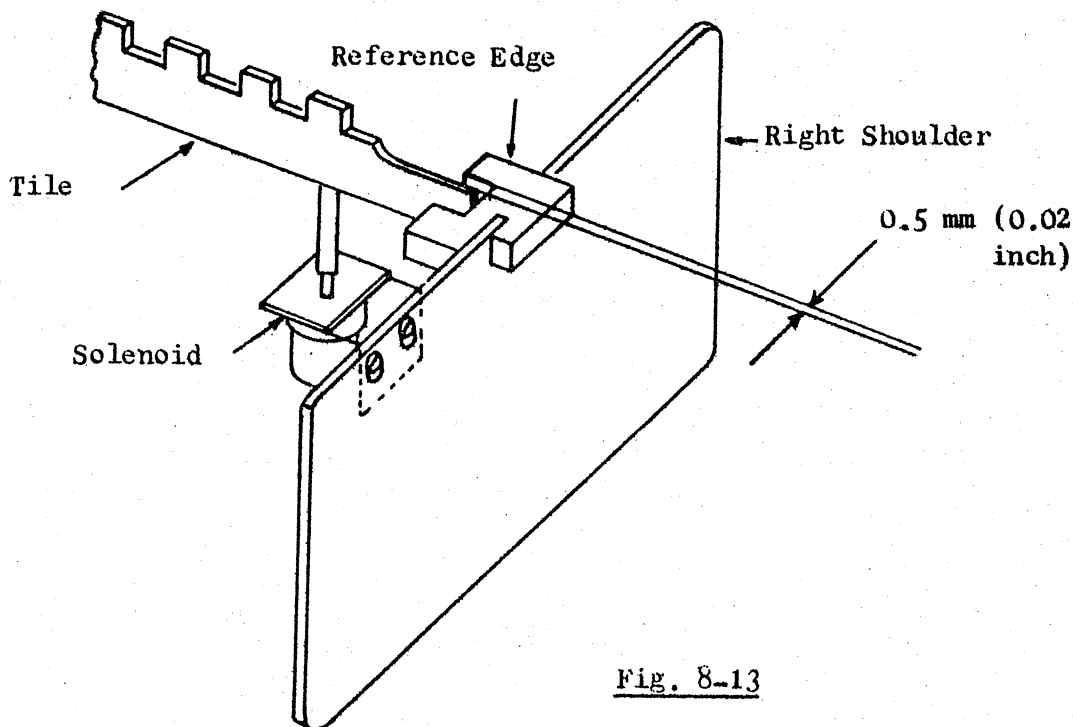

Fig. 8-13
When the solenoid core goes to end of run, the reference edge tile driven by it must be 0.5 mm (0.02 inch) apart from the plastic front reference edge (see fig. 8.13) fitted on the right shoulder.
- . Move the solenoid group upwards to obtain a measure of 0.5 mm (0.02 inch.) between tile and reference edge (see fig. 8.13).